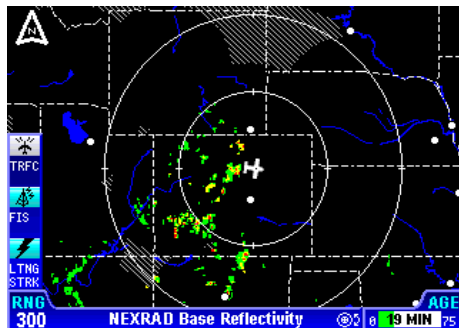

Figure 2-21
1. Press the **WX** Function Select Key until the FIS Graphics Page is displayed. If necessary, turn the Rotary Knob to obtain the NEXRAD Base Reflectivity display as shown in Figure 2-21. **NEXRAD Base Reflectivity** will be displayed at the bottom of the display.
Always make note of the age of the data displayed in the bottom right corner (see Figure 2-21). Remember, the older the age the more suspect the accuracy of the data. The colored bar will be green the first 50% of the expiration time period for the displayed data then turn yellow. Also, delays occurring prior to the weather distributor time stamping the data are not reflected in the displayed age. These delays can range from one to seven minutes.